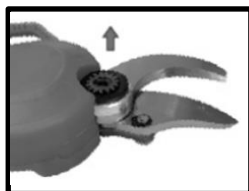

Fig. 1
1. Unscrew the nut and remove the cotton wool (Fig. 1)